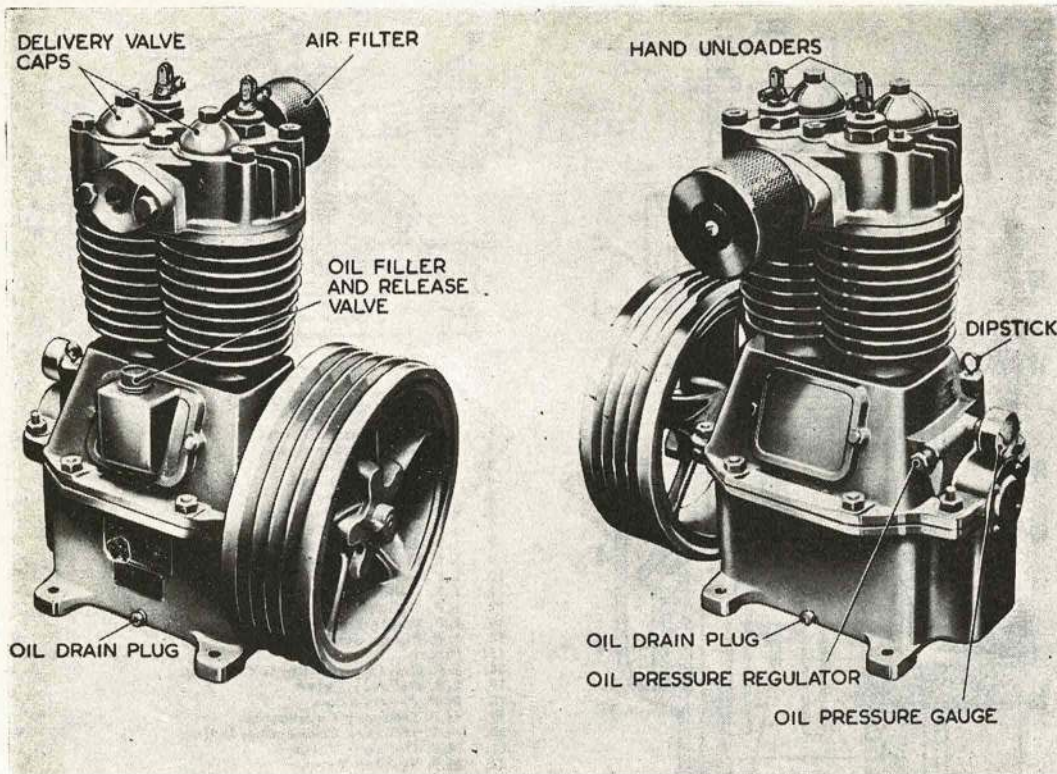

Fig. 4. BROOM AND WADE COMPRESSOR, TYPE N4
10. This compressor (Fig. 4) is a two-cylinder air-cooled single stage type in which the crankpins are set at 180 degrees to each other so that when one cylinder is compressing the other is drawing in air through the intake filter. It has a capacity of 24 cubic feet per minute at 100 lb per sq. in. and 650 r.p.m. The heat generated by the compression of the air is partly dissipated by a cooling coil which